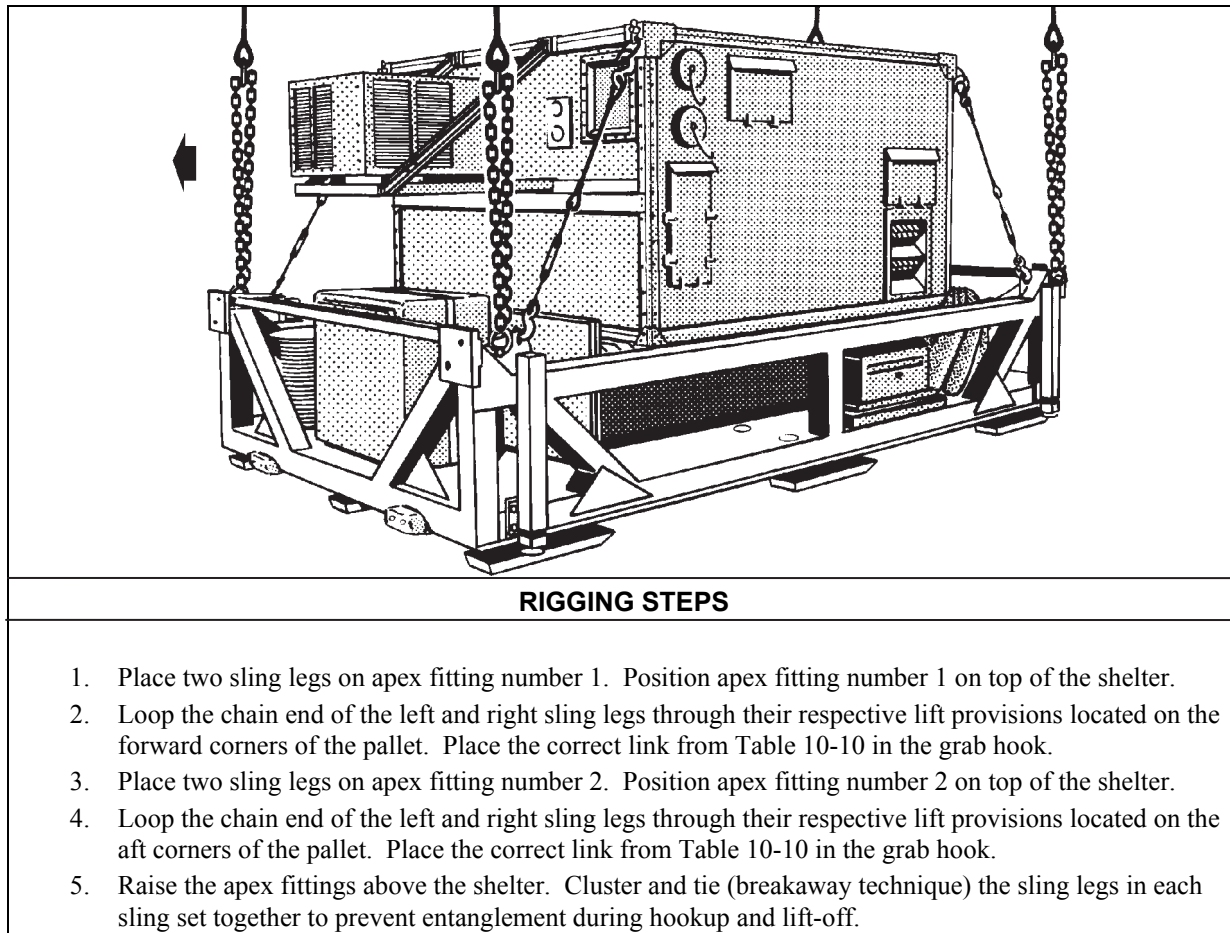

Figure 10-10. NATO Airbase Satcom (NABS) Shelter Pallet, AN/TSC-93B(V)2
- **Rigging.** Rig the load according to the steps in Figure 10-10.